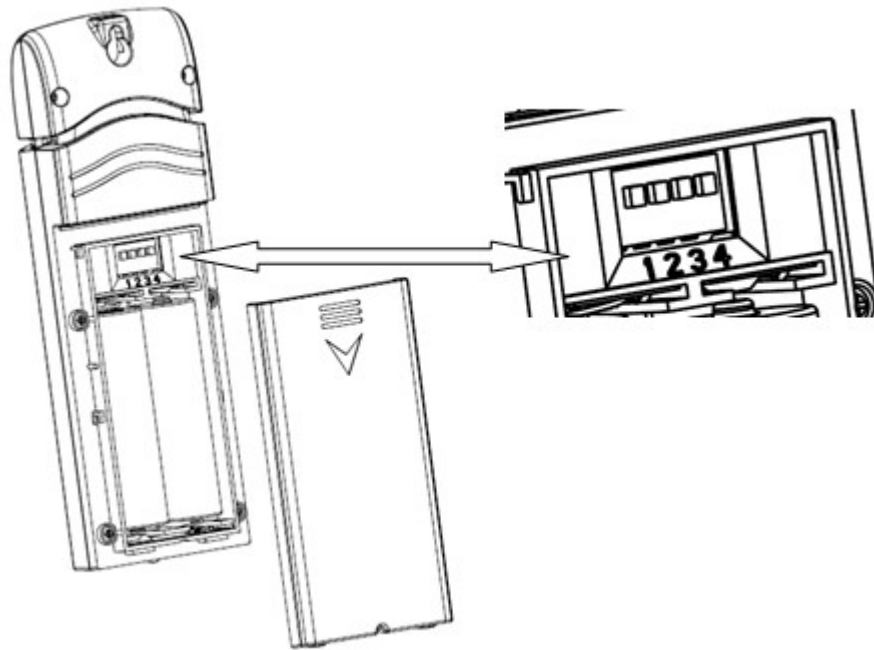

Figure 23
1. Remove the battery door on the back of the transmitter(s) by sliding down the battery door, as shown in Figure 23 .